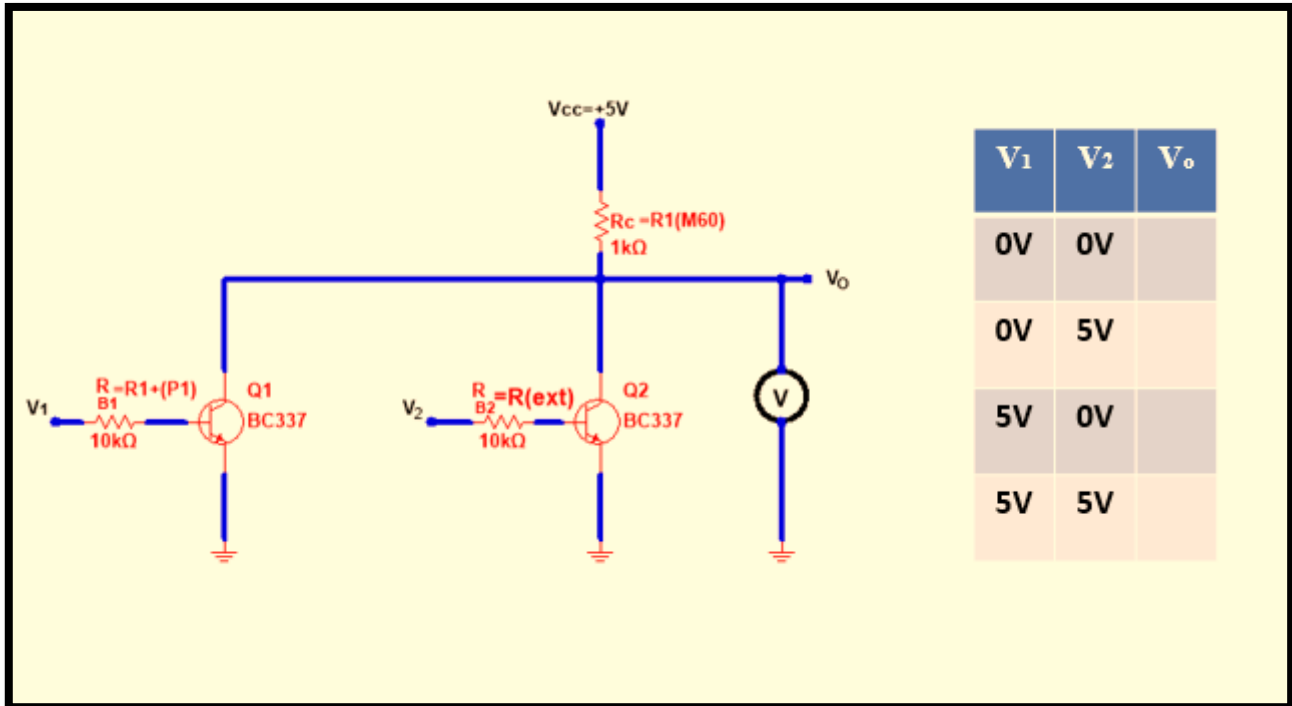

Figure 15: Practical NOR Gate Circuit
4. Connect the NOR gate circuit shown in Fig.15 and verify its truth table.